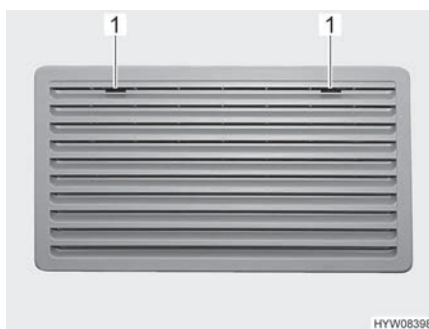
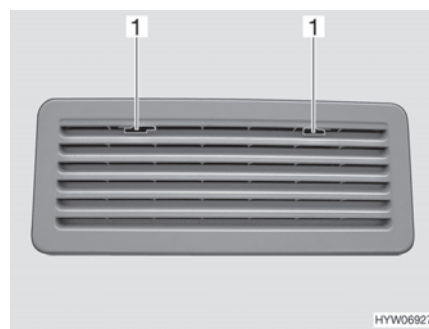

Fig. 104 Refrigerator ventilation grill (Thetford large)
Fig. 105 Refrigerator ventilation grill (Thetford small)
- Move the locking device (Fig. 104,1 or Fig. 105,1) to the middle.